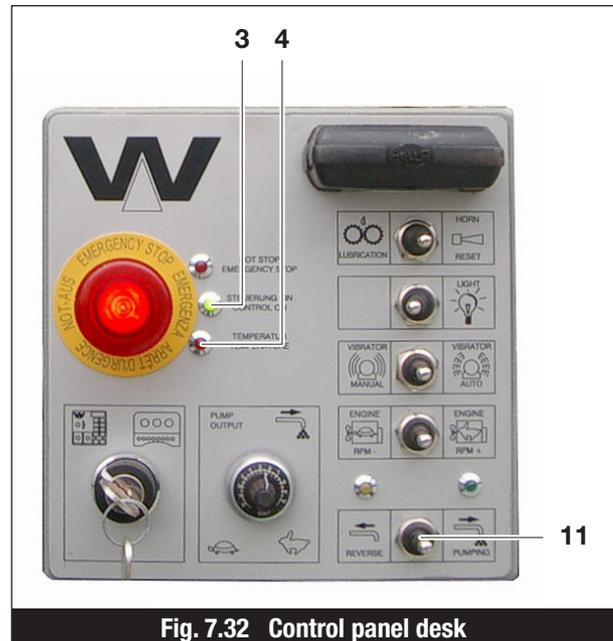

Fig. 7.32 Control panel desk
- Switch the pump to “Suck” mode using rocker switch (Item 11, Fig. 7.32) and pump 1 or 2 strokes to depressurise the conveying pipework.